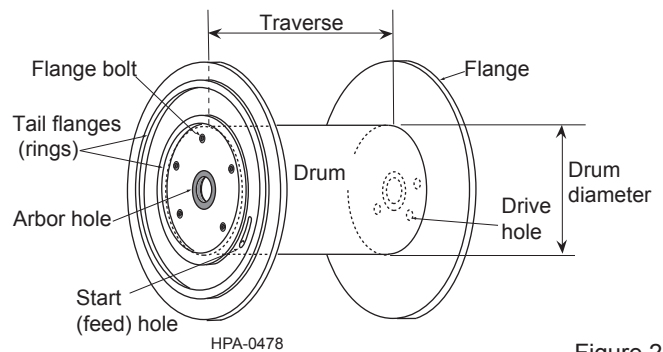

Figure 2
1.2 Figure 2 illustrates the reel and equipment terminology used in this procedure. Note that some features, e.g., tail flanges, are not present on every reel, and that wooden and steel reels vary in design..